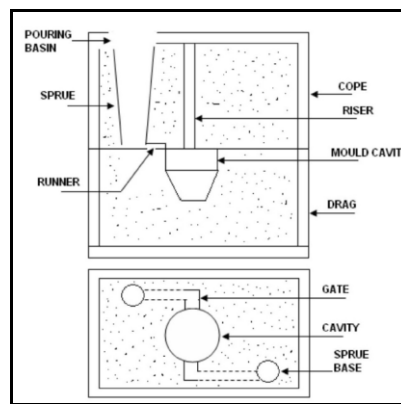

Figure 7.1. Sectional View of Green Sand Mould
- The top of the mould is rammed with the butt end of a rammer. The object of ramming the sand is to consolidate using figure 7.1